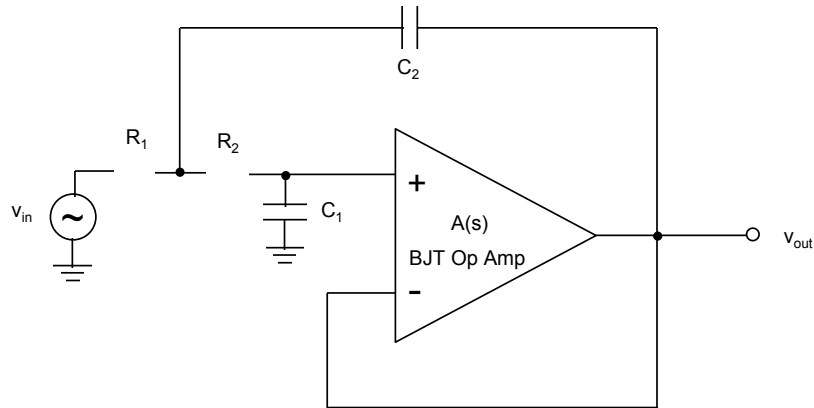

Figure 2.
- B. Next, consider the BJT opamp in the unique closed-loop 2nd-order low pass feedback circuit configuration shown in Figure 2 below. Set $R_1=R_2=1k\Omega$, $C_1=1nF$ and $C_2=100nF$.
B. Cast your BJT opamp into the unique 2nd-order low-pass circuit configuration shown in Figure 2. Set $R_1=R_2=1\text{k}\Omega$, $C_1=1\text{nF}$ and $C_2=100\text{nF}$.